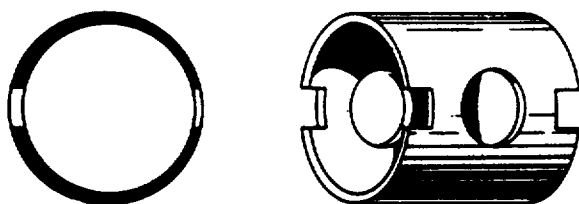

FIGURE 34
- (1) As mandrel shoes wear, and honing unit is used in upper end of its diameter range, the center of the honing unit may be offset with respect to the center of the spindle chuck. This will cause runout
- (2) Although runout is not objectionable for most applications, certain honing units are designed to be used with an eccentric sleeve (furnished with the machine). Rotating this sleeve one-half turn will reduce the runout sufficiently (Figure 34).